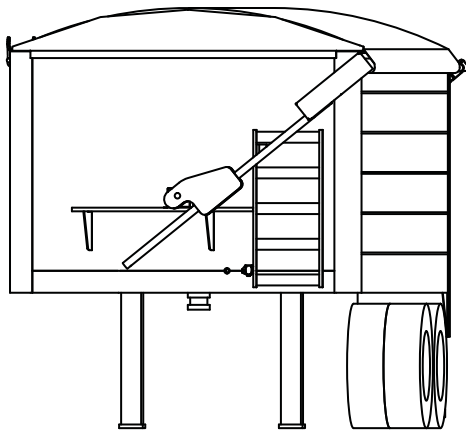

Figure 42
- 1) See Figures 42 & 43. Remove bottom collar and insert electric cord and swing arm assembly through the spring assembly.